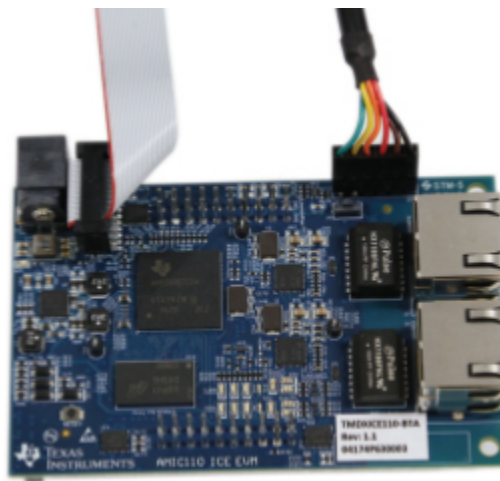

Figure 3. AMIC110 ICE Serial Port Connection
3. Connect the pin header connector of the TTL-232R-3V3 serial cable to J3 on the AMIC110 ICE (see Figure 3). Ensure that pin 1 of the serial cable (black wire, marked with a triangle) is connected to pin 1 of J3 (indicated by a dot on the silk screen).